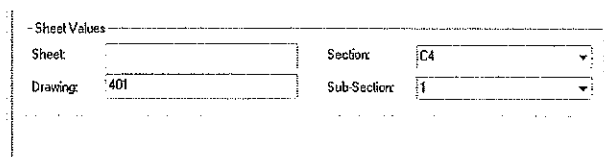

Figure 13-51 Values changed in the Drawing, Section, Sub-Section edit boxes
9. In this dialog box, the values in the **Drawing, Section, Sub-Section** edit boxes of the **Sheet Values** area are changed, refer to Figure 13-51.